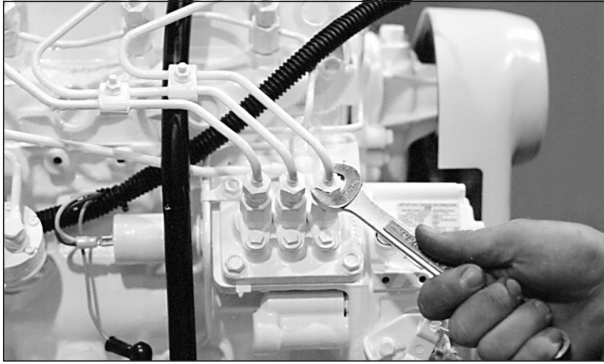

Figure 10: Remove delivery line flare nuts.
3. Loosen the lock nut and adjust the clearance between the rocker arm and valve stem of both the intake and exhaust valves with the adjustment screw (Figure 10). Clearance on both intake and exhaust valves should be 0.008 in. (0.2 mm).